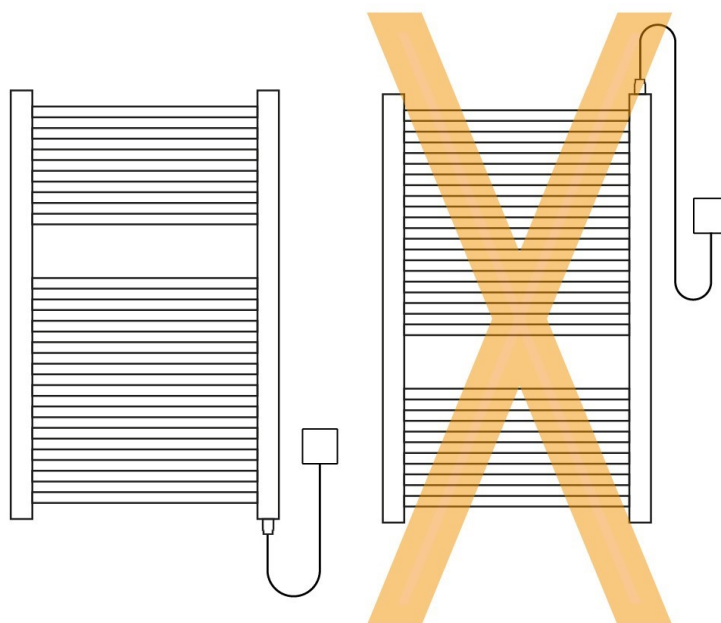

Figure 3 | Correct and incorrect installation positions of the element
2. Identify the inlet where the element will be fitted in the towel rail. The element is fitted vertically, in the bottom left or right vertical strut. Never fit the element at the top of a towel rail or in horizontal towel rails (see **Figure 3**).